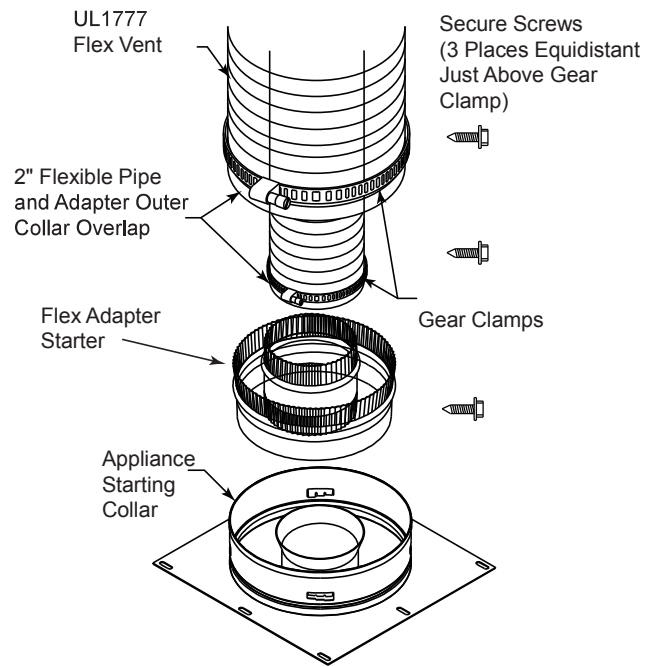

Figure 16 Typical Appliance Connection
A. Installing the inner flex adaptor and pipe. *Figure 16*
- Attach the DVP flex starter onto the starting collar on the unit. Slide the male end of the inner flue over the inner collar of the appliance, at the same time, slide the outer flue over the outer collar of the appliance. Push the flex starter section into the appliance collar until all the lances have snapped in place. Tug slightly on the section to confirm it has completely locked into place. Install three (3) self tapping #10 screws through the DVP flex starter into the starting collar of the appliance.
- B. Installing the outer flex pipe. *Figure 16*